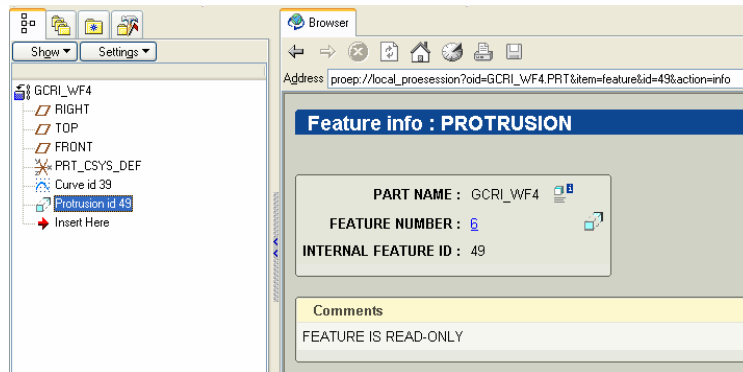

Figure 3. Feature Info, Read Only Features
3. The user must remember that fully-featured, master definitions will not be transferred from later release to earlier release as fully-featured models. GRANITE-based TIMs will contain the following content and attributes. The user will see a static (non-modifiable) feature tree with highlighting (smart selection). Features shown in the tree will be considered read-only (see Figure 3) and these features can not be regenerated, reordered, or redefined.